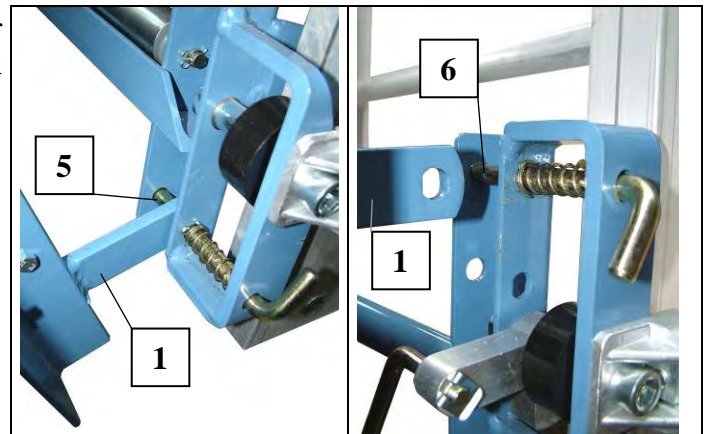

Fig. 42 Assemble universal platform
- Hook vario-platform (like the universal platform) to the lower spring catches on the sliding carriage and secure on both upper spring catches (see Fig. 42).